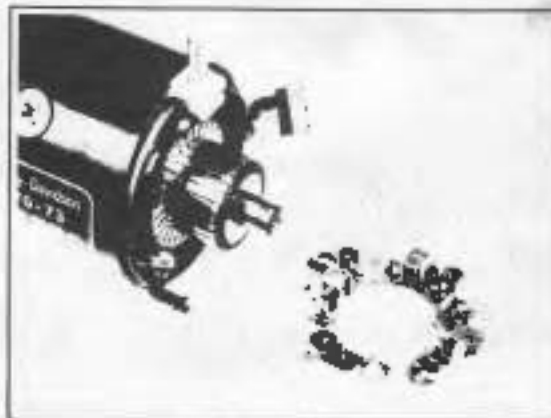

Figure 5-33. Hitachi Brushes and Brush Holder
Lift the brushes from the commutator. As shown in Figure 5-32, pulling up the brush spring with a steel wire and pull out the brushes. Note that two minus brushes (7) have to be withdrawn slightly to be held in the brush guide, making use of the action of the brush spring. The other two plus brushes (8) should be completely removed from the brush holder assembly (9) as shown in Figure 5-33.